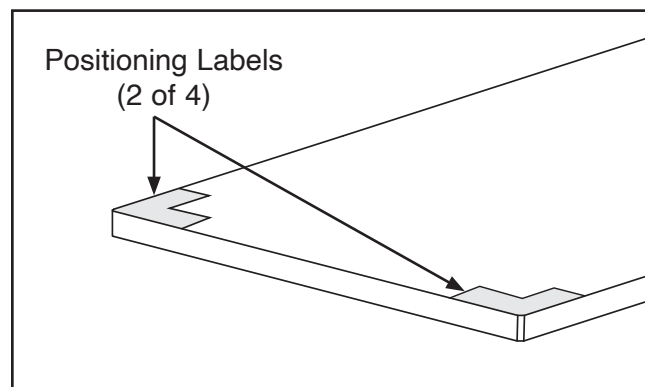

Figure 4. Location of table positioning labels.
2. Place table on a flat, protected surface with positioning labels facing up (see **Figure 4**).